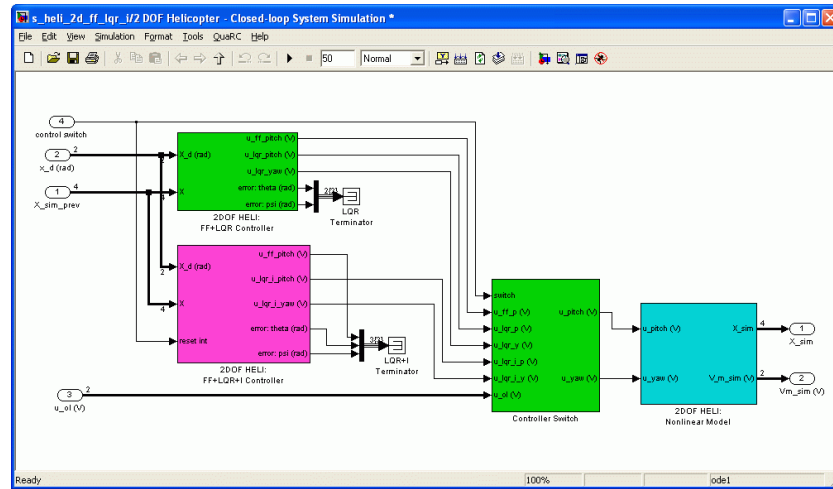

Figure 5.7: Closed-loop simulation of 2-DOF Helicopter
4. The interior of the *2DOF Helicopter - Closed-loop System Simulation* subsystem is shown in Figure 5.7. The LQR and LQR+I control blocks along with the nonlinear model are described in Section 5.1. The *Controller Switch* subsystem implements the logic to switch between the FF+LQR and FF+LQR+I controllers and between the pitch and yaw open-loop modes.